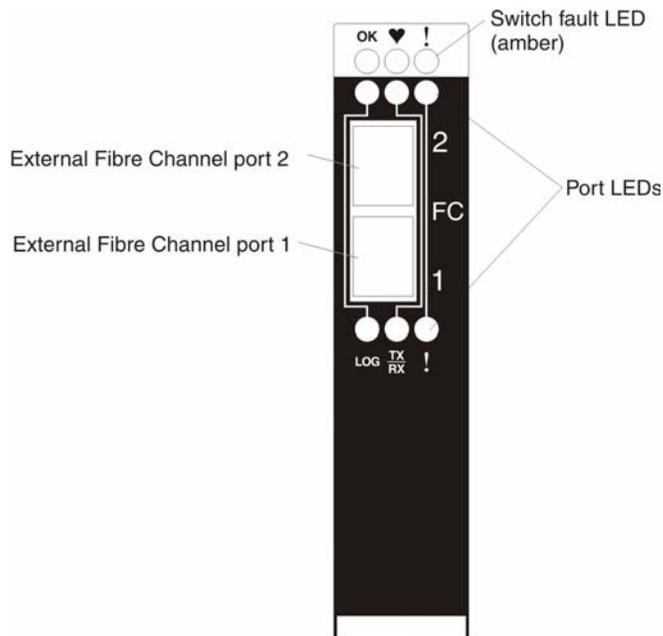

Figure 6. Fibre Channel switch module information panel
The switch module information panel contains LEDs and two Fibre Channel ports, as shown in Figure 6.
- Two external Fibre Channel ports to connect Fibre Channel devices, end devices, and servers. These ports are identified as port 2 and port 1 in the switch configuration menus and are labeled 2 and 1 (from top to bottom) on the switch module, as shown in Figure 6.